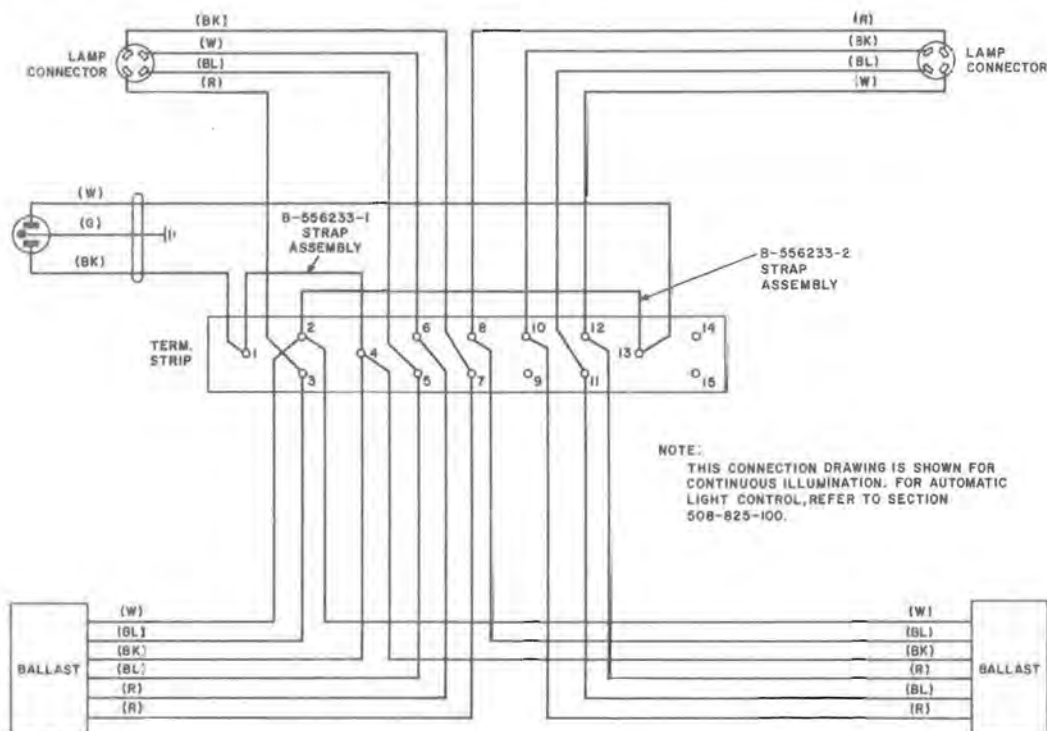

Fig. 7—Connections For List 4 or List 6 Unit
- (c) List 6 unit is provided with terminals to be connected for continuous illumination or for automatic operation with a light control unit (Fig. 7).